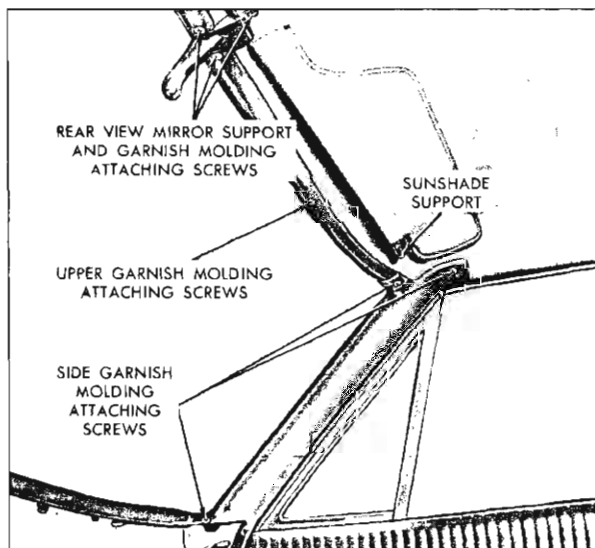

Fig. 2-1 Windshield Garnish Moldings
3. To install, reverse removal procedure (Figures 2-1 and 2-2).